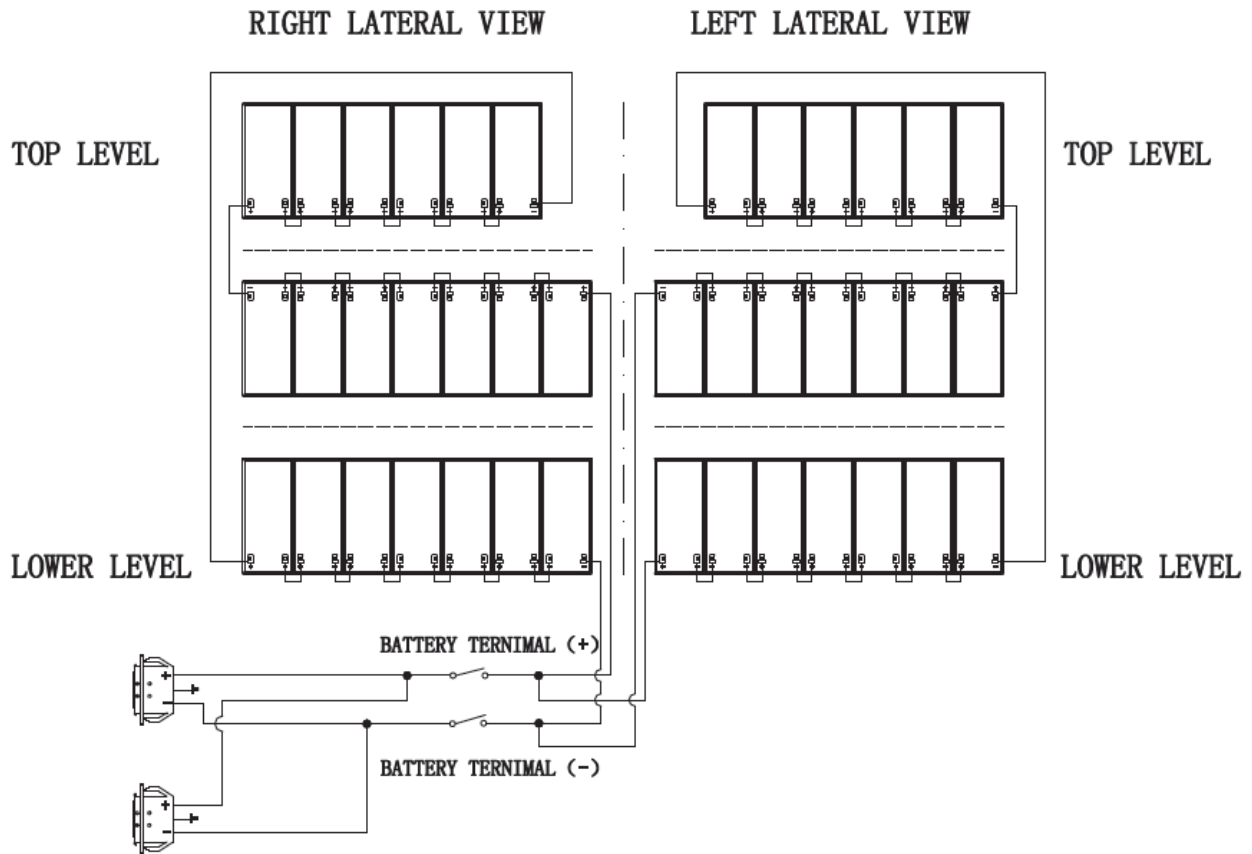

Figure 1 Battery Wiring Diagram
26. Verify proper polarity. Reconnect the two-battery negative (Black) wires, one on the right-hand side and one on the left-hand side. See the battery wiring diagram in Figure 1 below.
27. Verify proper polarity. Reconnect the two-battery positive (Red) wires, one on the right-hand side and one on the left-hand side. See the battery wiring diagram in Figure 1 below.